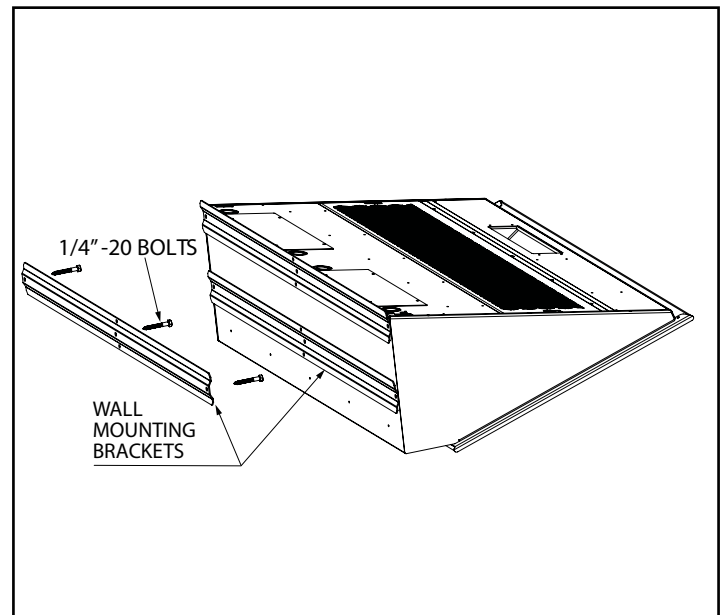

Figure 4 - Wall Mounting Preparation
1. Locate the wall mounting brackets. Two of the wall mounting brackets are shipped already attached to the back of the air curtain, and the third is shipped loose and can be found in the carton that contained the air curtain. **See Figure 4.**